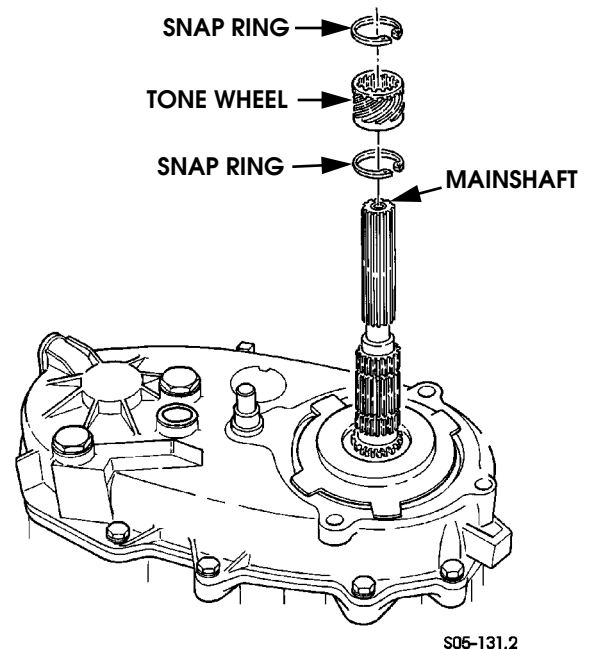

Figure 5-166: Tone Wheel Speedometer Installation
- 35. Install speedometer tone wheel and snap rings (Figure 5-166).